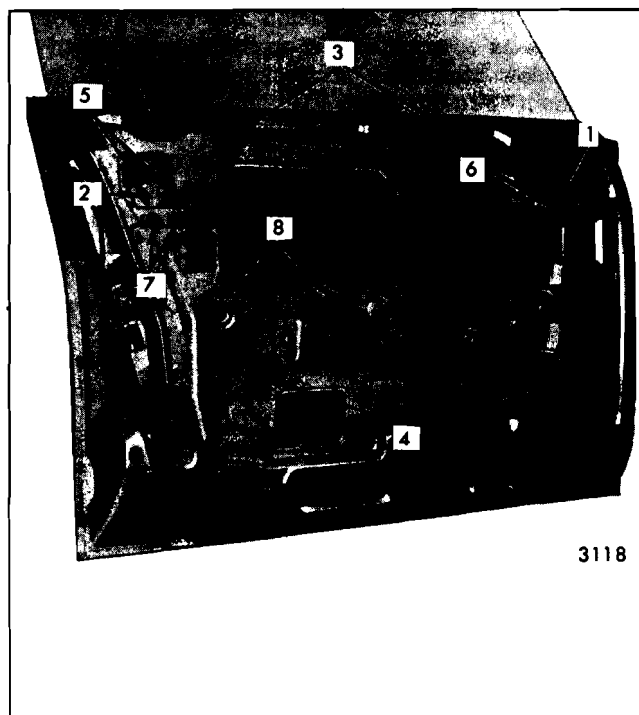
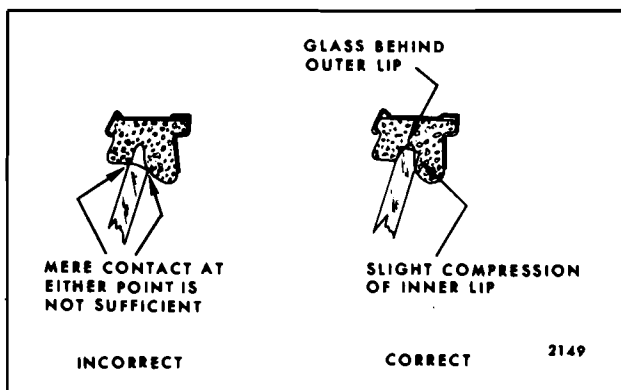

Fig. 6-91—Window Removal and Adjustment - "B-39" and "C-39, 49 and 69" Styles
Fig. 6-92—Window to Side Roof Rail Weatherstrip Alignment
2. Remove front and rear window up-travel stops ("1" and "2", Figure 6-91).
3. Loosen front and rear window stabilizer strips ("3", Figure 6-91).
4. With window in three-quarter-down position, remove lower sash channel cam to glass attaching nuts ("4", Figure 6-91). Remove window by lifting straight up and aligning rollers
1. In and out adjustment of the glass is controlled by the in and out adjustment available at the top of the front and rear guides ("5" and "6", Figure 6-91) and the in and out position of the glass stabilizer strip assemblies ("3", Figure 6-91).
2. Fore and aft adjustment of the window assembly is controlled by the position of the rear guide. The upper attaching locations in the inner panel ("7", Figure 6-91) are slotted to permit fore and aft adjustment of the guide. Because the roller assembly (bell-crank) which attaches to the glass at the front pivots, the front guide does not have to be adjusted during fore or aft window alignment.
3. Ease of window operation and window stability depends a great extent on the adjustment of the window stabilizer strip assemblies at the belt-line ("3", Figure 6-91). The stabilizing strips "3" should contact the glass throughout the full cycle of the window. However, in some cases due to the slight variations in glass contour, the strip may loose contact with the glass halfway through the cycle. This is permissible provided it does not result in loose glass or restrict ease of window operation.
4. A window that is rotated (cocked) in the window opening may be the result of an improperly adjusted inner panel cam ("8", Figure 6-91) or poorly adjusted up-travel stops ("1" or "2", Figure 6-91).
Correct a poorly adjusted inner panel cam by loosening cam attaching bolts ("8", Figure 6-91) and adjusting front end of cam up or down as required. Adjustment of cam repositions front edge of glass up or down in relation to rear edge of glass.
5. The up-travel of the window is determined by the adjustment of the front and rear up-stop ("1" and "2", Figure 6-91). To adjust window up-travel, loosen front and rear up-stops and operate window to desired position to establish proper glass to side roof rail weatherstrip contact (Figure 6-92).